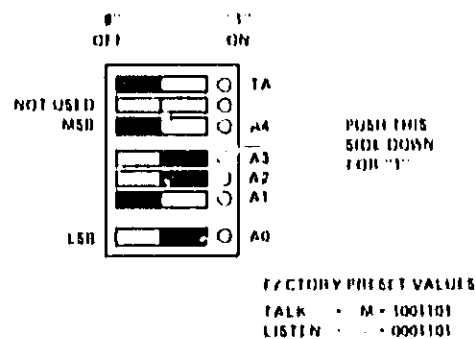

Figure 8-3. HP-1B Address Selection
- The address selector switch is seven SPST switches contained in a dual-in-line (DIP) package. Figure 8-3 shows the switch with the factory preset values.